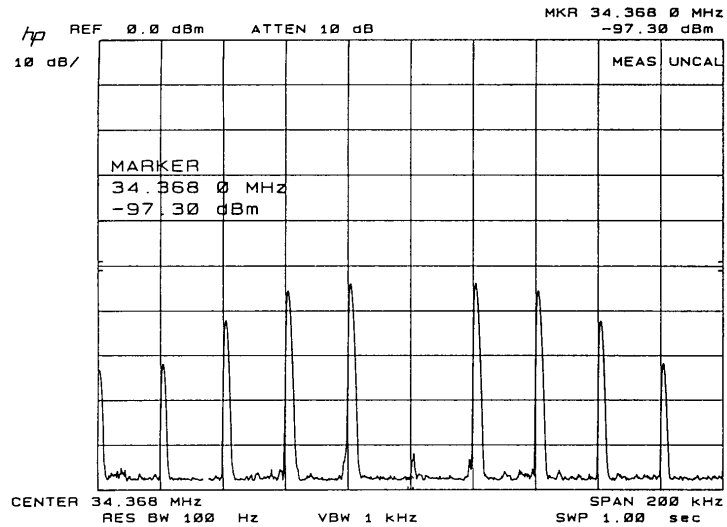

Figure 3-47
5. Adjust the HP 37717C jitter amplitude (approximately 0.77 UI) until the first **Bessel Null** is observed on the Spectrum Analyzer i.e first dip in the carrier level. (As an example Figure 3-47 shows the first Bessel Null for 34MHz.)
5. Adjust the HP 37717C jitter amplitude (approximately 0.77 UI) until the first **Bessel Null** is observed on the Spectrum Analyzer i.e first dip in the carrier level (see Figure 3-47).